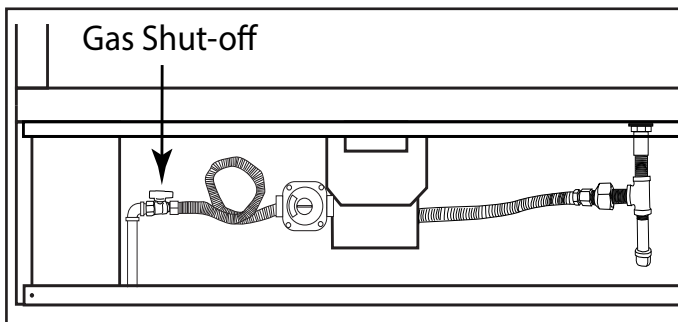

Fig.1 Close up view of inlet gas connection with shut-off valve.
GAS LINE: The gas line must have a predetermined location to enable it to be installed. Fig. 1 shows one example of an inlet gas line with a gas shut off at the fireplace. This allows a technician to shut the inlet gas supply OFF and remove the burner for servicing. Ensure you follow the local and state gas codes per your installation.
3. The primary gas shut-off (supplied) will require a $\frac{1}{2}$ " male flared fitting to enable connection of the stainless steel flex gas line supplied with the fireplace (See Fig. 1 page 6).